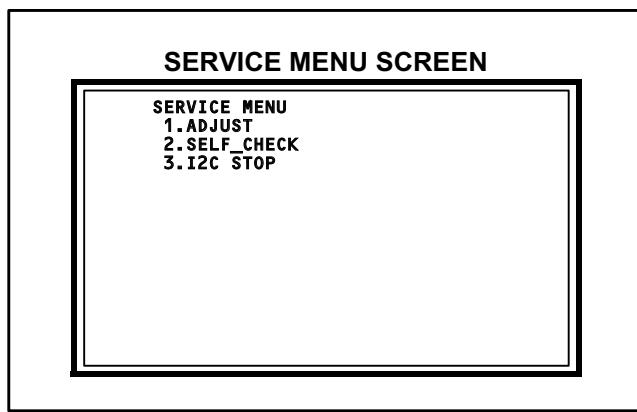

Fig.1
- (1) Set to 0 minutes using the [SLEEP TIMER] key.
- (2) Press the [VIDEO STATUS] key and [DISPLAY] key simultaneously, then enter the SERVICE MODE (Fig.1)